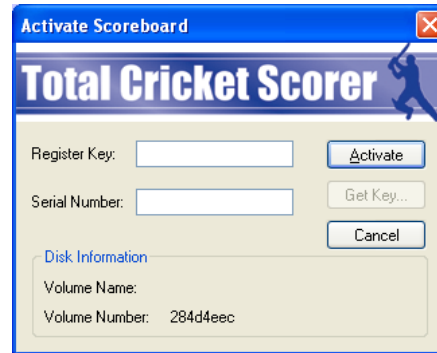

Figure 1
2. On the *Activate Scoreboard* window (Figure 1), type in the *Register Key* and *Serial Number*.